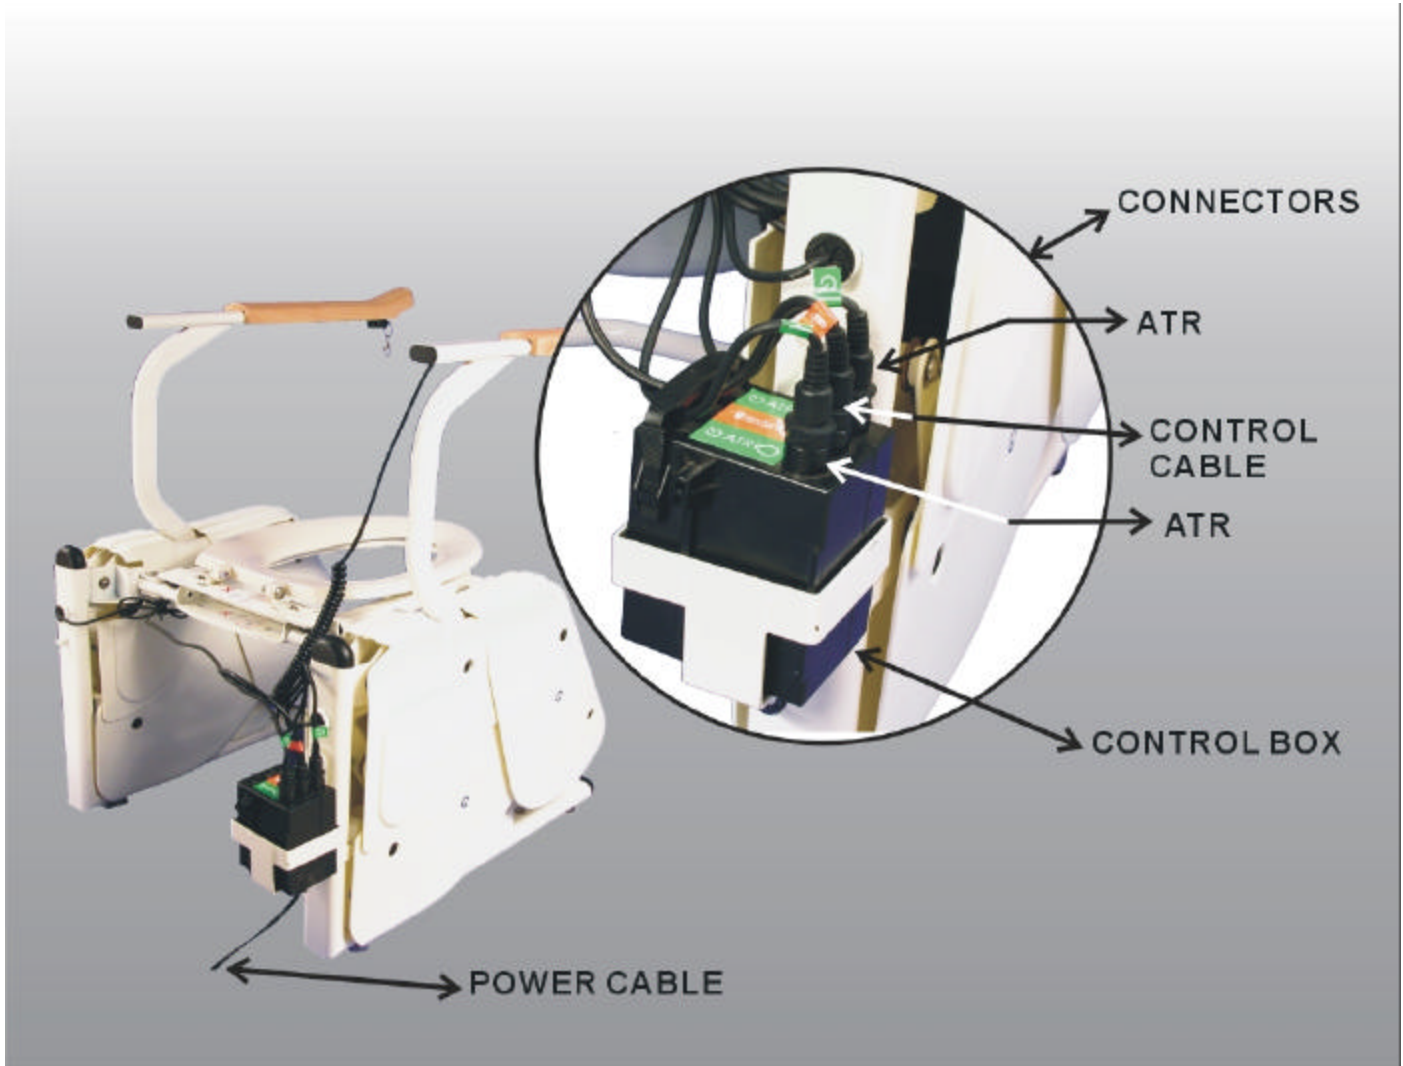

Figure A-5. Battery Powered Control Box Connectors
Step 6a. For the optional battery control box, connect the control armrest cable to the middle connector port on the top of the control box as shown in Figure A-5.